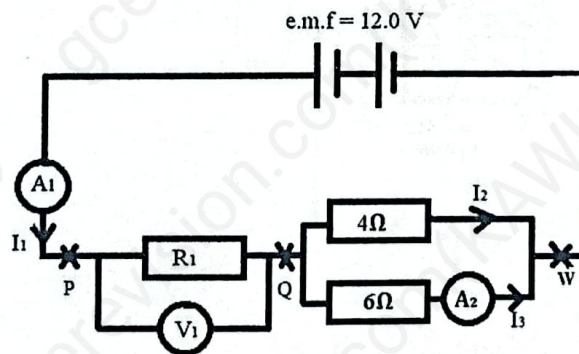

Figure 6
- (ii) The power used in Watts (W). (1 mark)
- e) In the electrical circuit diagram shown in figure 6, the effective resistance of the circuit is 5.4Ω .